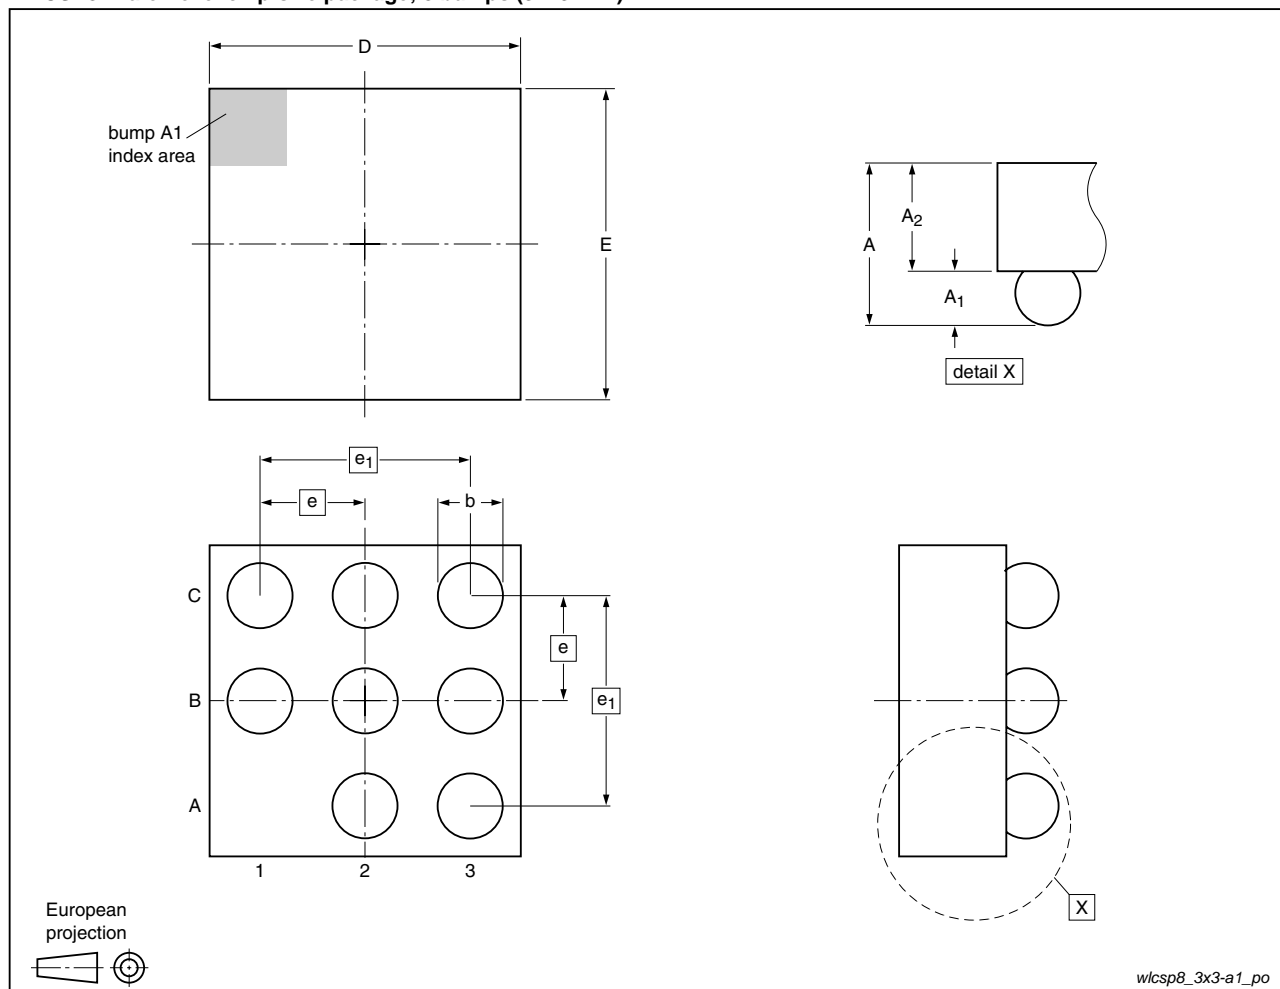

Fig 8. Package outline (WLCSP8)
**Table 5.** Dimensions for Figure 8